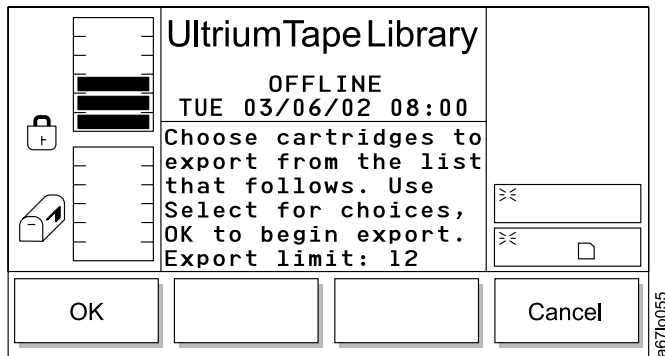

Figure 129. Export Dialog
- If **Export** is selected, the Export Dialog displays (see Figure 129 on page 116).